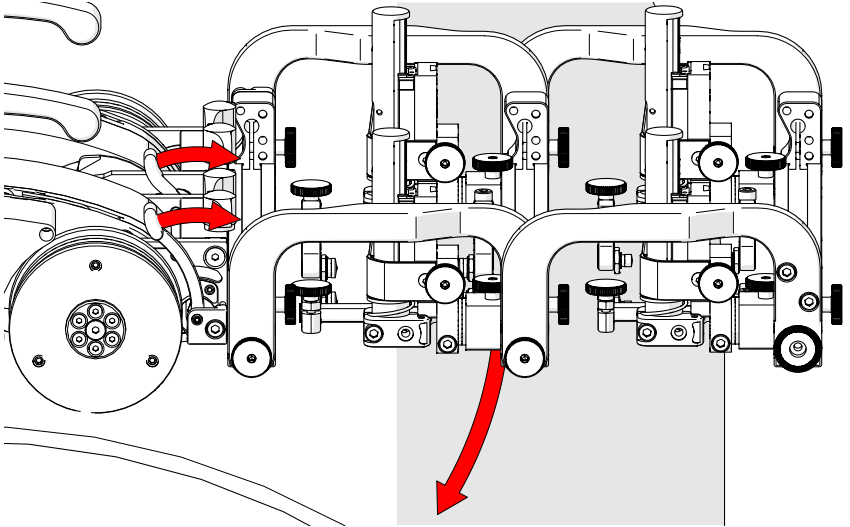
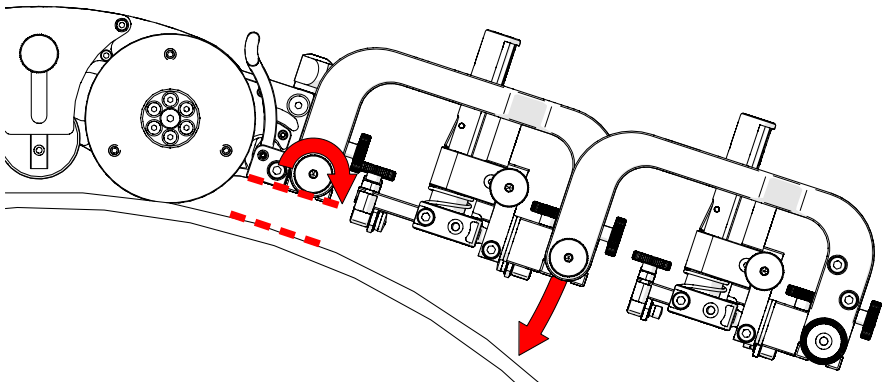

Fig. 227 - Align swivel mount with scan surface
Fig. 228 - Set rear rotational adjustment knob
3. Mount the probe holder frame to the crawler (see Swivel Mount on page 46 for additional details). When mounting the probe holder frame, ensure the attachment knobs (Fig. 227) are at the front (non crawler side).
4. Release the two swivel mount levers (Fig. 227) to position the swivel mount parallel to the scan surface (Fig. 228). When alignment with scan surface is achieved, lock the crawler swivel mount levers.
5. Loosen the rear rotational adjustment knob to lower the weld scan frame towards the inspection surface (Fig. 228).